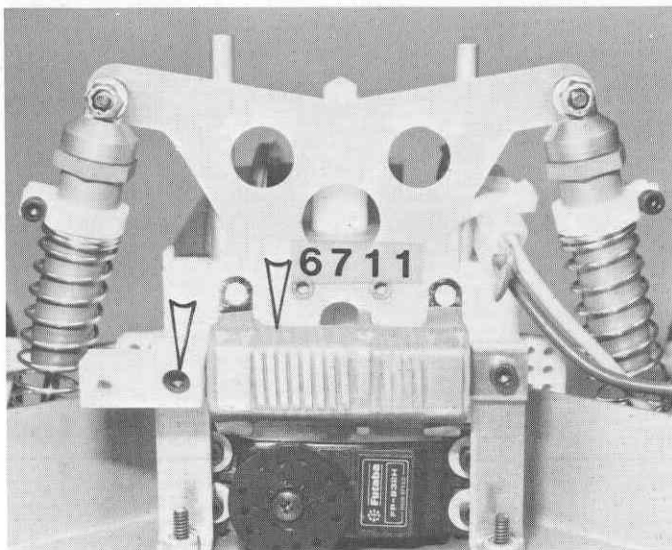

Fig. 153
□ **Fig. 153** Slip the aluminum resistor mount through the #6711 resistor and attach it with a short 4-40 screw and locknut to the R.H. side of photo, as shown. On the other side, where arrow is pointing, install the plastic bypass mount with the longest screw going into the recessed hole, as shown, with a locknut. There are two plastic bypass mounts. Use the thicker mount with the square edges if you are mounting a small (S32) sized servo. For a medium or large servo the resistor brackets must be turned differently and the thinner bypass mount with rounded edges (and possibly dyed a color) should be used.